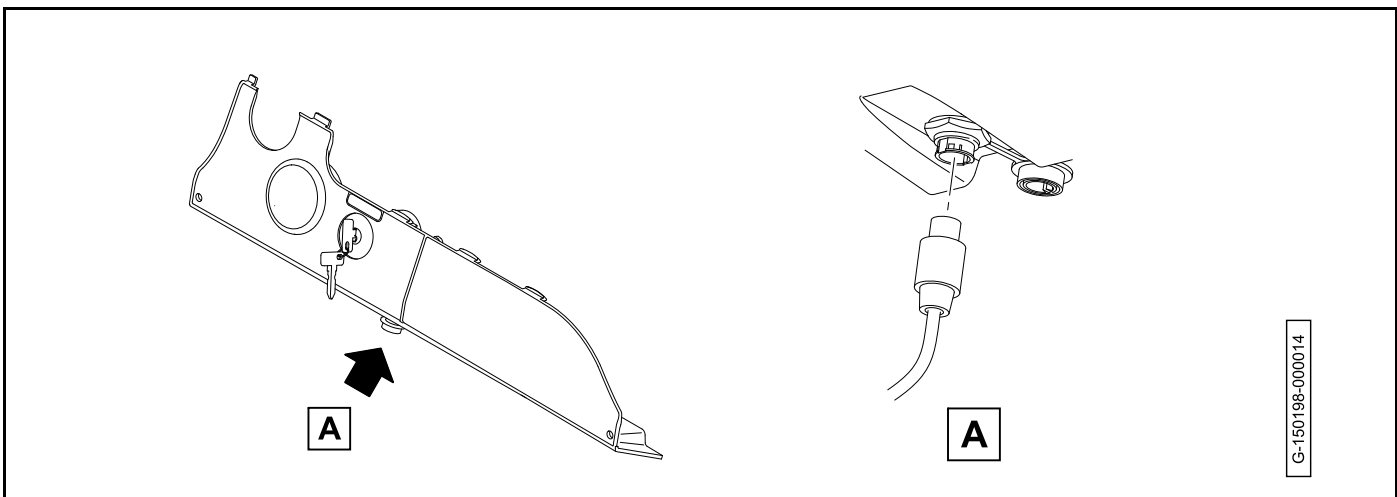

Figure 11-2
3. Find the communication port on the vehicle (**Figure 11-2, Page 11-2**).